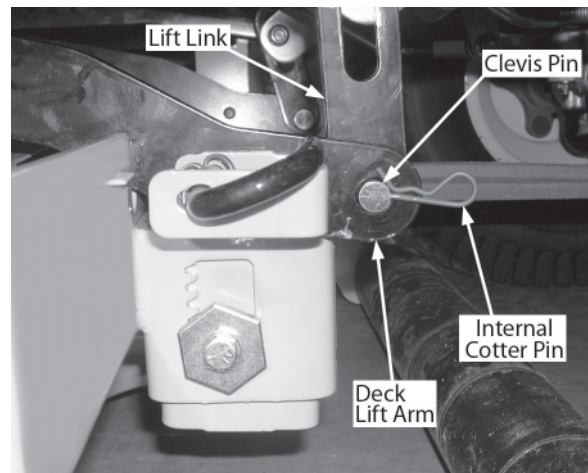

Figure 7-7
- From either side of the tractor, just behind the mower deck, disconnect the tractor lift link from the deck lift arm by removing the internal cotter pin and withdrawing the clevis pin. See Figure 7-7. Move to the other side of the tractor and disconnect the lift link on that side in the same manner.
- Make certain the tractor lift links are inside of the deck frame lift arms. Align the lift link and lift arm holes on either side of the tractor and insert the clevis pin removed earlier. Secure with the internal cotter. Refer to Figure 7-7. Connect the lift link and lift arm on the other side of the tractor in the same manner.